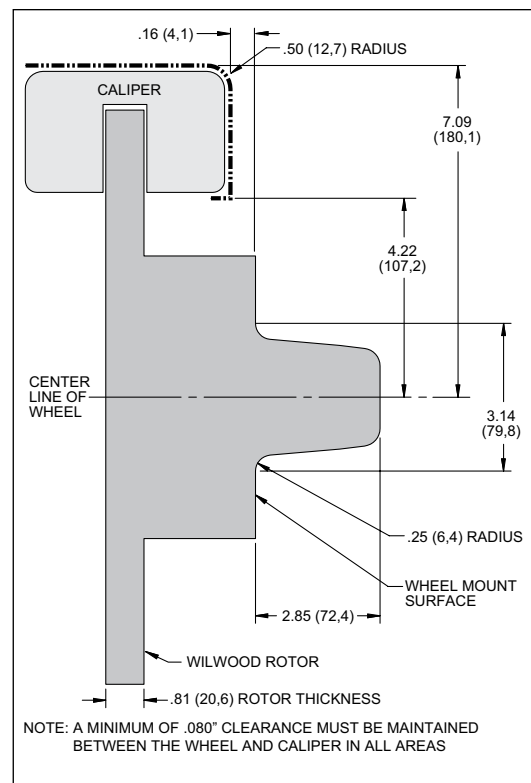

Figure 2. Wheel Clearance Diagram
- Review the wheel clearance diagram (Figure 2, page 3) to verify that there is adequate clearance with the wheels you will be using with the installation.
- Verify wheel clearance utilizing Figure 2.